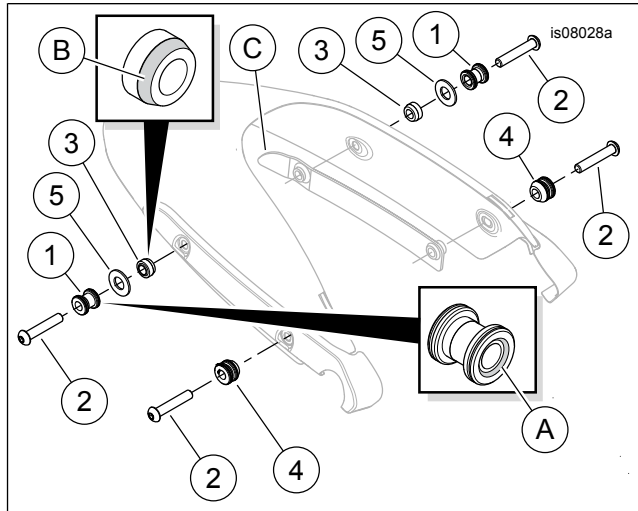

Figure 3. Service Parts, Docking Hardware Kit
See Figure 3 and Table 1.
1. See Figure 3. Remove and discard the **rearward** fender support screw.
2. Get a wide docking point (1), screw (2) and docking point spacer (3) from the kit.
3. Install the docking point, countersunk end (A) last as shown, onto the screw threads. Install the docking point spacer, tapered end (B) last, onto the threads.
4. Install the screw through the fender support, fender and into the fender mounting spacer (C). Tighten finger-tight.
6. Get a narrow docking point (4) and screw (2) from the kit.
9. Install the screw through the fender support, fender and into the fender mounting spacer (C). Tighten to 54.2 N-m (40 ft-lbs).
- b. See Figure 3. Remove the assembled screw (2), wide docking point (1) and docking point spacer (3) from the rear docking point position on each side.
- d. Rotate the docking points 180 degrees. Install the docking points, countersunk end (A) **first**, onto the screw threads.
- e. Get two spacer washers (5) from the kit. Install a spacer washer onto the threads of each screw.
- f. Install the docking point spacers, tapered end (B) last, onto the threads.
- h. Install the screws through the fender supports, fender and into the fender mounting spacers (C). Tighten screws to 54.2 N·m (40 ft·lbs).